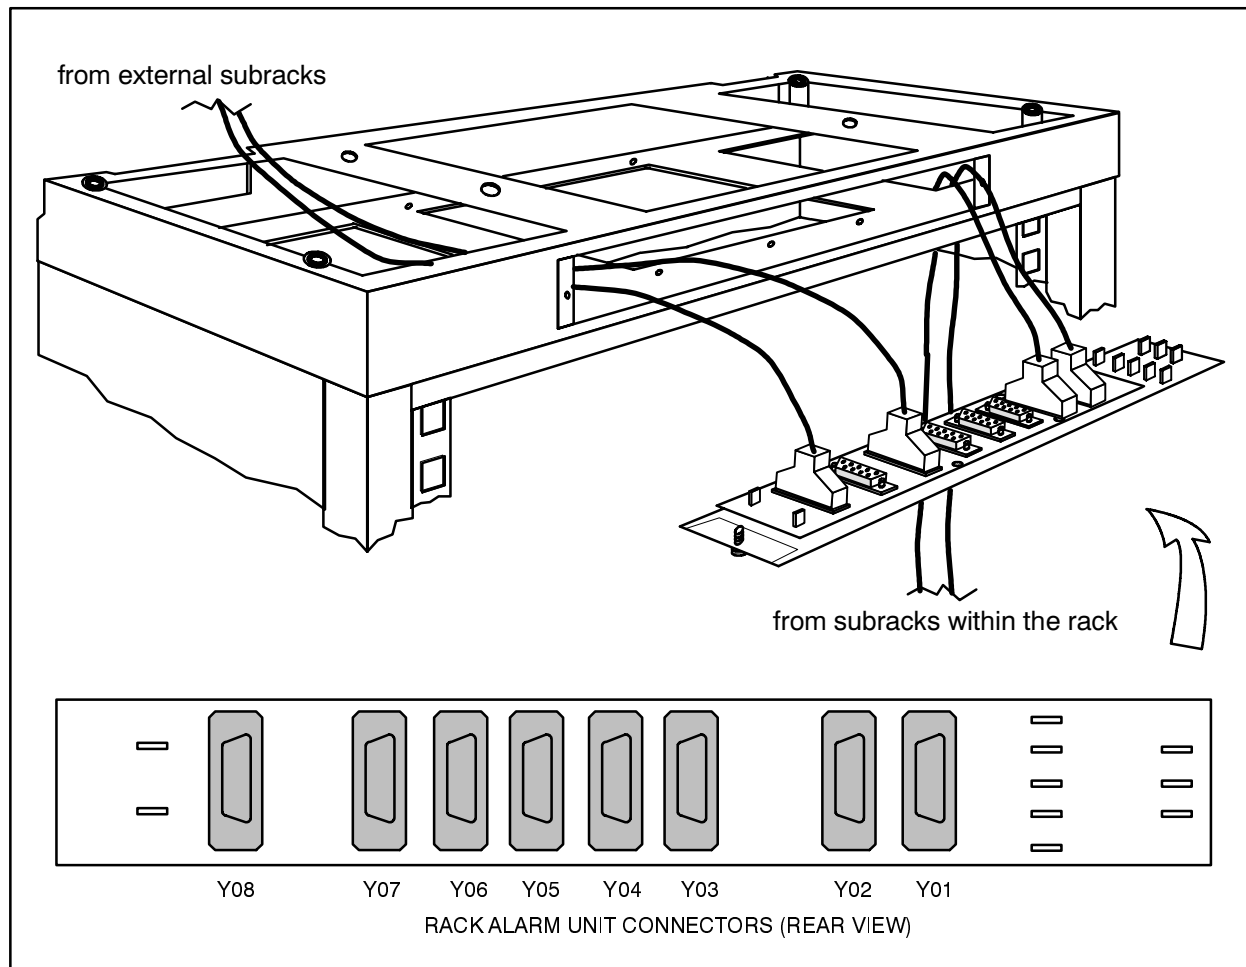

Fig. CC-22 Connecting rack alarms
2. Insert the 9-pin male connector in one 9-pin female connector of the Rack Alarm Unit (Fig. CC-22).